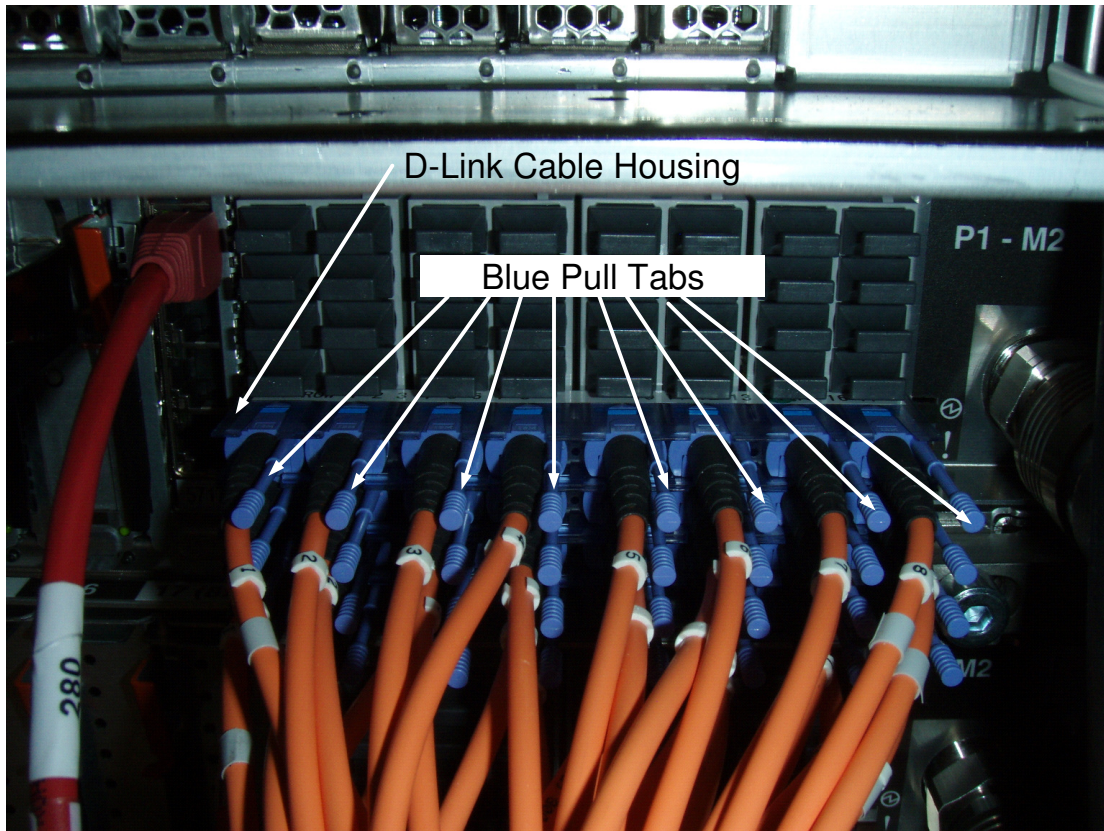
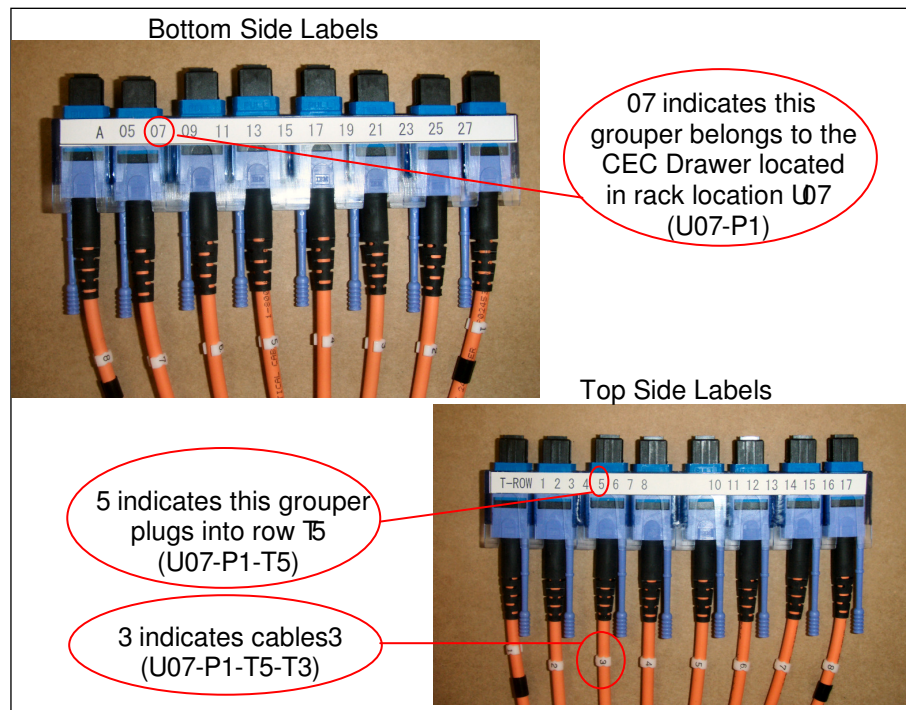

Figure 16 D-Link Grouper
Figure 17 D-Link Grouper assembly detail
STEP 29 Remove the CEC Drawer D-Links from both the left and right rear of the CEC Drawer (Right side of CEC shown in Figure 16) being serviced by pulling on the blue tabs of each D-Link. Take care not to bump the fiber optic connectors against any surface including body parts. (The row of D-Links are contained within the D-Link Grouper and will remain in the housing. It is worth noting that the housing has a label on it with its location and each cable has a label – see Figure 17.) Must remove cable support brackets.